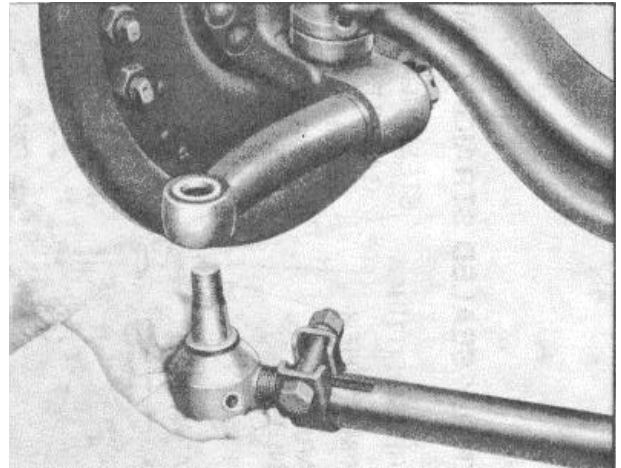

Figure 1
- G. If knuckles are to be rebuilt or tie rod to be serviced, remove cross tube end nut and disassemble cross tube assembly from cross tube arm (Figure 1).